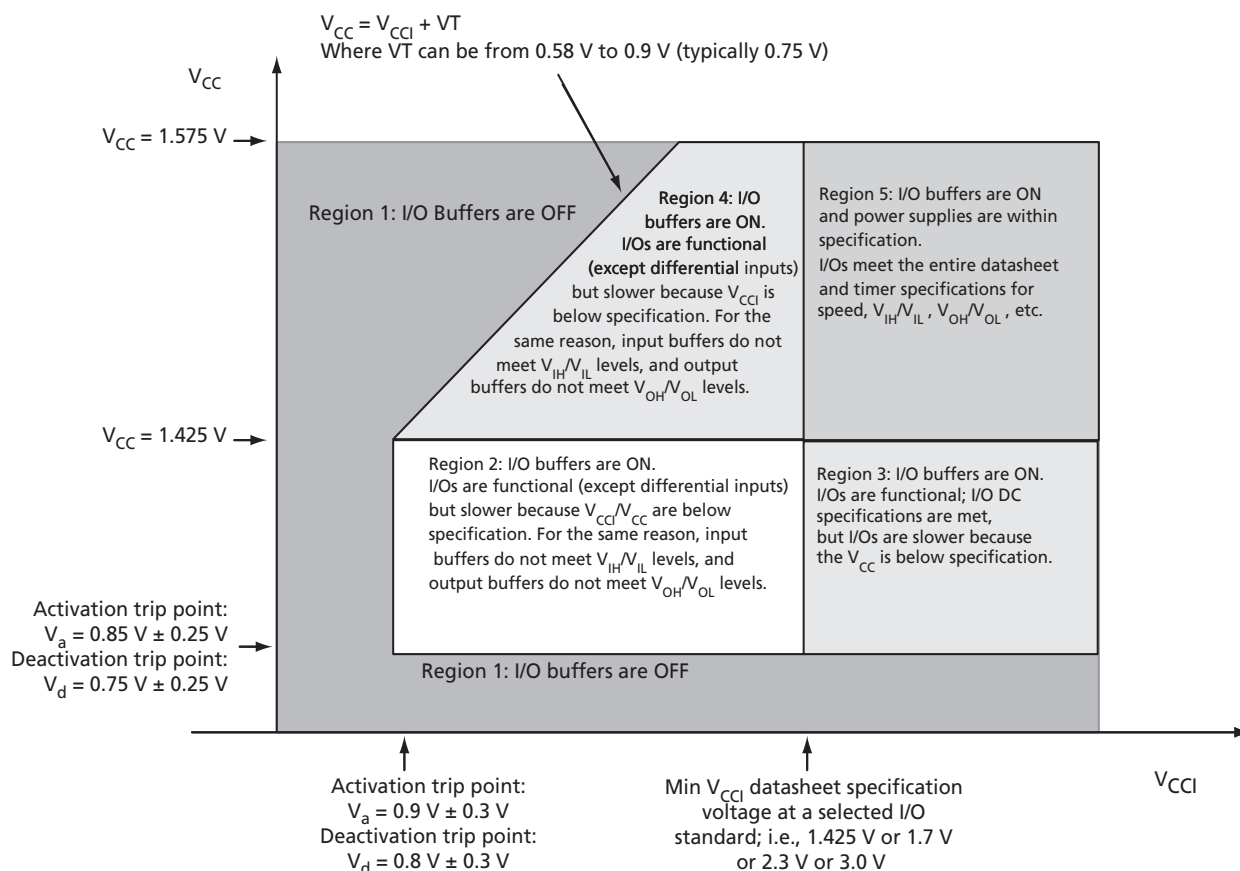

Figure 3-1 • I/O State as a Function of V_{CCI} and V_{CC} Voltage Levels
Sophisticated power-up management circuitry is designed into every Fusion device. These circuits ensure easy transition from the powered-off state to the powered-up state of the device. The many different supplies can power-up in any sequence with minimized current spikes or surges. In addition, the I/O will be in a known state through the power-up sequence. The basic principle is shown in Figure 3-1.
1. V_{CC} and V_{CCI} are above the minimum specified trip points (Figure 3-1).